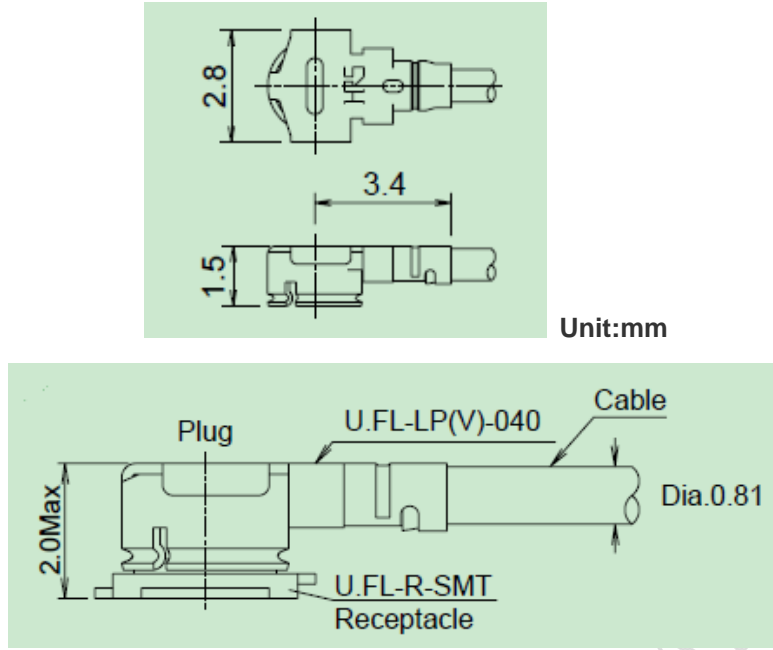

Figure 41: U.FL series RF adapter cable
To get good RF performance in customer's design, SIMCom suggests the customer to use the matching RF adapter cable which is also supplied by HRS (Part Number: U.FL-LP (V) -040), the following figure 41 is the dimensions of U.FL series RF adapter cable. User can connect SIMCom for more information.